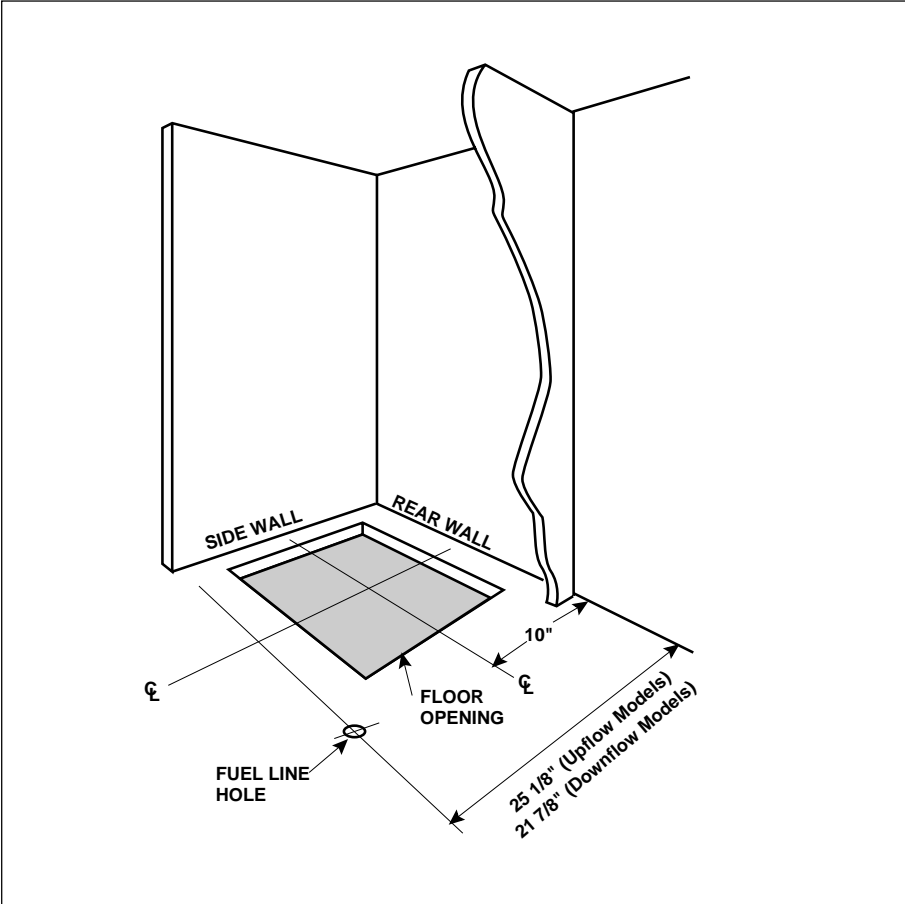

Figure 8. Closet or Alcove Floor Cut-Out
- Determine center of closet or alcove (Figure 8).